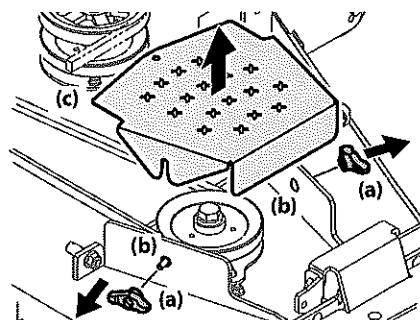

Figure 33
- Remove the wing knobs (a) from the carriage screws (b) securing the belt covers (c) to the deck. Remove the deck covers. See Figure 33.
- Using the wing knobs (a) and carriage screws (b), secure the belt covers (c) to the deck See Figure 33.